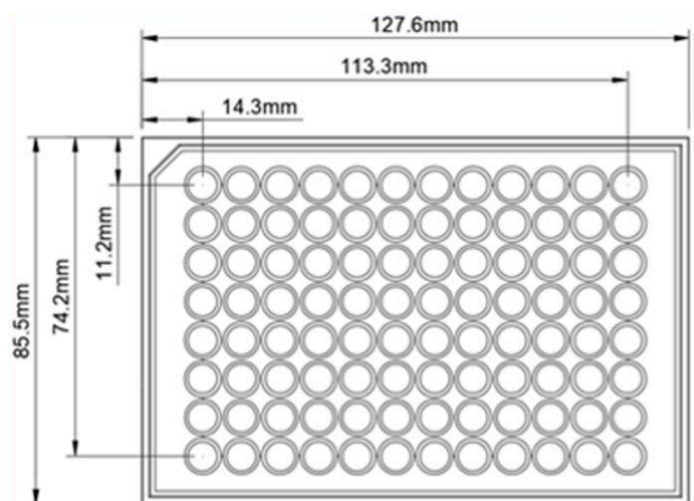

Figure 1. Corning spheroid microplate 4520 overhead dimensions
1. Ensure the automated system has the correct plate dimensions for the Corning® Spheroid Microplate (Catalog Number 4520, Figure 1 below).